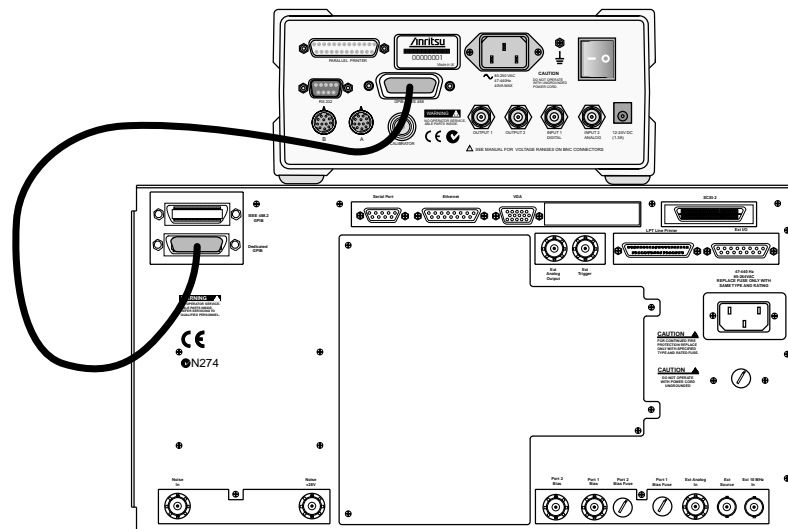

Figure 3-1. ML2430A Series Power Meter GPIB connection to the MS462XX Vector Network Measurement System
1. Set up the equipment as shown in Figure 3-1 below.